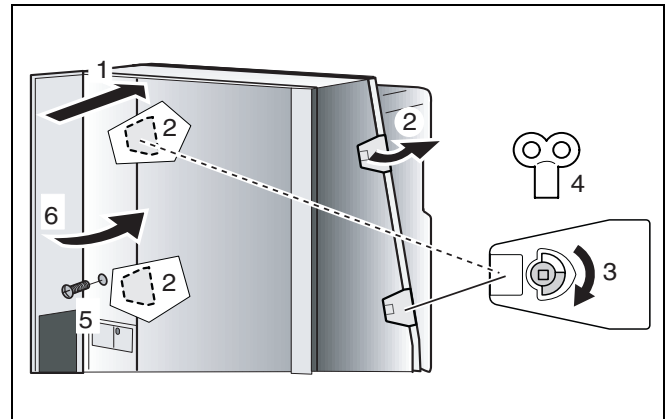

fig. 42 Fitting the boiler casing
- Put the casing in place (fig. 42, item 1).
- Close (fig. 42, item 2) and lock the clasps (fig. 42, item 3) with the radiator key (fig. 42, item 4).
- Turn in the screw (fig. 42, item 5).
- Close the cover of the control panel (fig. 42, item 6).